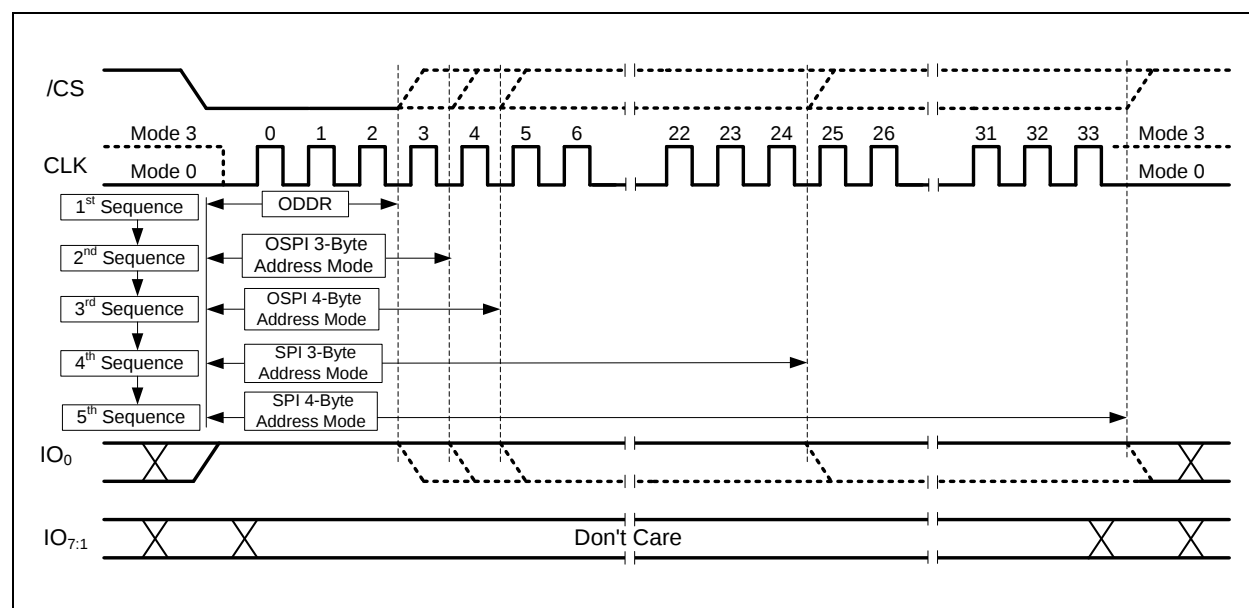

Figure 4-4. Exit XIP Sequence
The above sequence is illustrated in Figure 4-4 below. This sequence will only exit indeterminate XIP mode by setting XMB to '1'. It does not reset the device or interrupt an ongoing internal Program/Erase operation. After terminating XIP mode, the host controller should regain control of the interface and perform the required operations either by doing further interface recovery, power loss recovery, software reset sequence or hardware reset for full device recovery.
- The first step is to execute the Exit XIP Recovery Sequence as detailed on Section 6.5.4 and Figure 4-4 (on the previous section). This is a five step method in exiting XIP mode by driving IO0 to '1' until XIP Mode Bit (XMb) is passed on each of the supported XIP IO Mode Configurations (ODDR, OSPI with 3-Byte or 4-Byte Address, and SPI with 3-Byte or 4-Byte Address).
- The first step is to execute the Exit XIP Recovery Sequence as detailed in Section 6.5.4 and Figure 4-4 (on the previous section). This is a five step method used to exit the XIP mode by driving IO0 to '1' until XIP Mode Bit (XMb) is passed on each of the supported XIP IO Mode Configurations (ODDR, OSPI with 3-Byte or 4-Byte Address, and SPI with 3-Byte or 4-Byte Address).